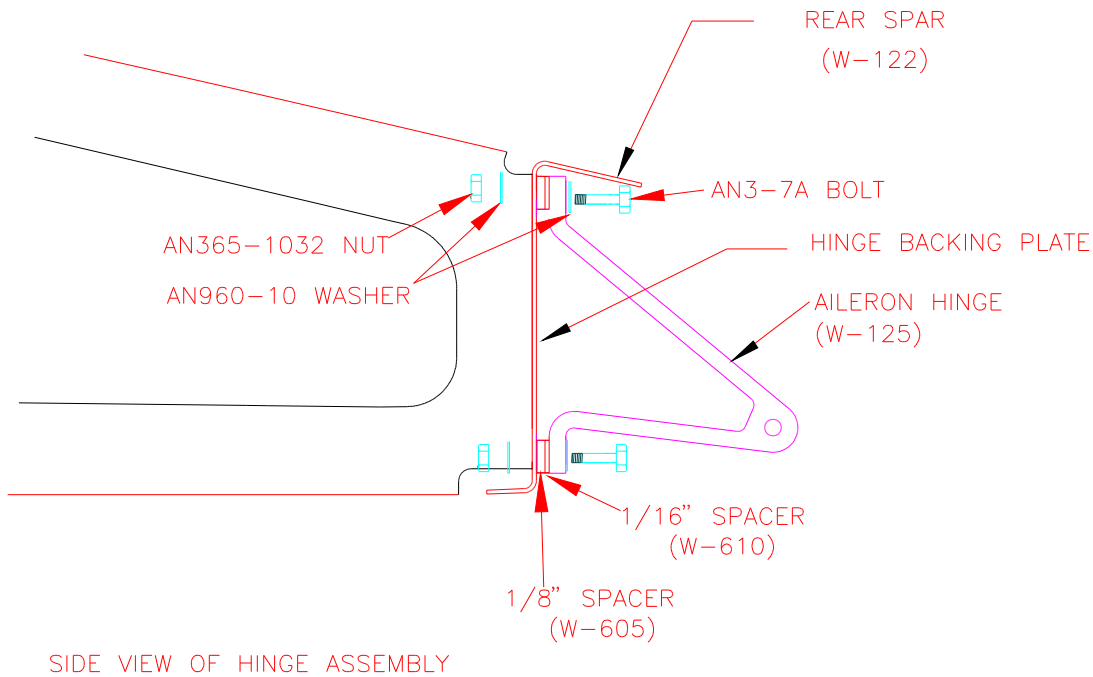

Figure 10.12.4
8) If the aileron does not clear the top skin by 1/16", either replace the W-610 with a 1/8" Hinge Spacer (W-605) or use both. See Figure 10.12.4.